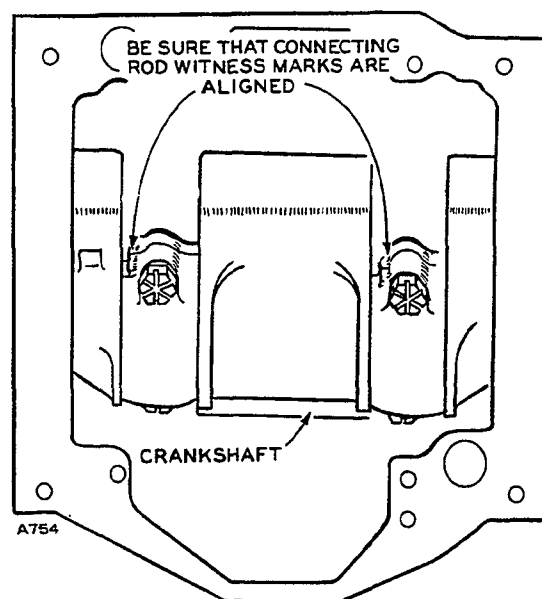

FIGURE 111. CONNECTING ROD CAP
5. Position each connecting rod on crankshaft, oil the journal, and install its rod cap and bearing half. When installing rod cap, position so raised witness mark on forging matches mark on connecting rod. See Figure 111.